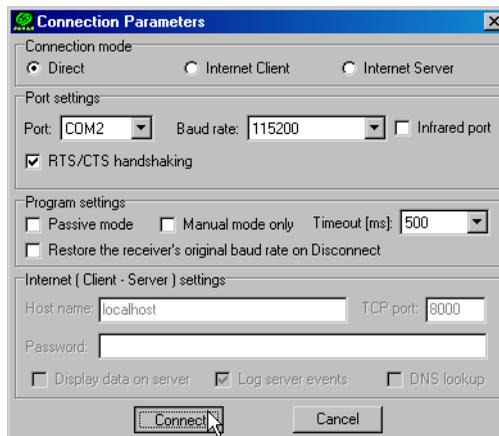

Figure 4-2. Connection Parameters – RTS/CTS Handshaking
3. On the *Connection Parameters* dialog box, enable RTS/CTS handshaking (Figure 4-2).
3. On the Connection Parameters dialog box, enable RTS/CTS handshaking (See Figure 4-2 on page 111.)